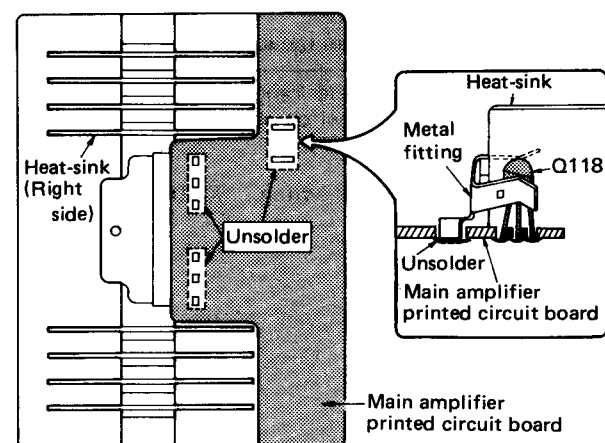

Fig. 13
5. Unsolder the power transistor (Fig. 13) and the metal fitting (Fig. 13) which secures the transistor (Q118).
When soldering the metal fitting, completely set the transistor (Q118) onto the heat sink. See Fig. 13.